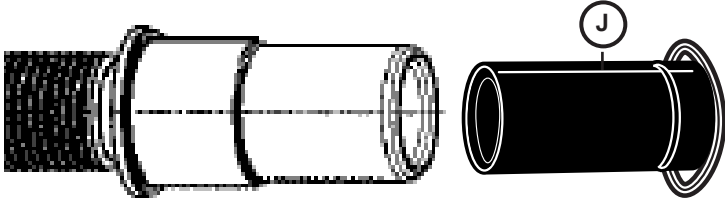

Figure 12
2. Obtain the Rubber Drain Hose Adaptor (J) spring clamp from the Dishwasher Installation Kit (**do not substitute**).
3. Insert the dishwasher drain hose into the **end of the drain hose** (see **Figure 12**. Be sure to fully insert the drain hose).